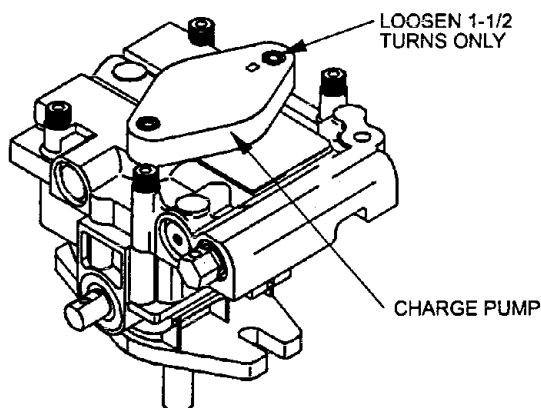

FIG. 8
- f) If either drive wheel does not rotate, one or both of the charge pumps (located on the top of the main pump as shown in Figure 8) may have lost their "prime". Refer to Section 5.1.10.
The critical area for purging air from the hydraulic system is between the oil reservoir and each charge pump located on the top of each variable displacement pump. (See Figure 8).
- d) To "prime" charge pump, loosen two hex socket head capscrews (shown in Figure 8) 1-1/2 turns only. **Make sure engine is not running.** Lift charge pump housing upward and wait for a steady flow of oil to flow out from under housing. **Retighten capscrews.** Do this for both pumps. Note: Hydraulic reservoir can be pressurized to up to 5 psi to speed this process.